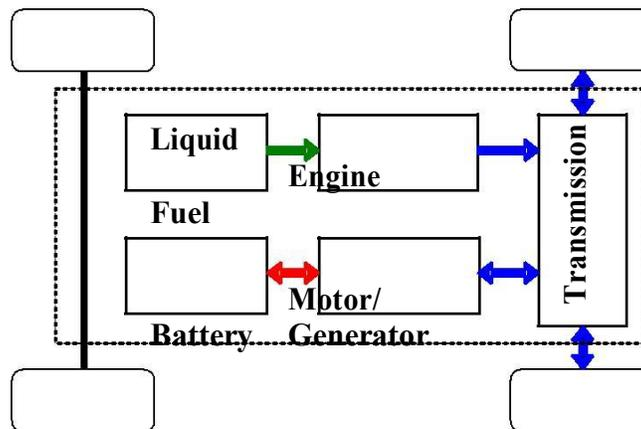

Figure 4: Schematic of a parallel hybrid powertrain
These two characteristic curves are shown in Figure 4. In **Figure 4** the following nomenclature is used:
- **Figure 4:** Characteristic curves of an internal combustion engine
In a Parallel Hybrid, there are two parallel paths to power the wheels of the vehicle: an engine path and an electrical path, as shown in figure 4. The transmission couples the motor/generator and the engine, allowing either, or both, to power the wheels. Control of a Parallel Hybrid is much more complex than for a Series Hybrid because of the need to efficiently couple the motor/generator and engine in a way that maintains driveability and performance.